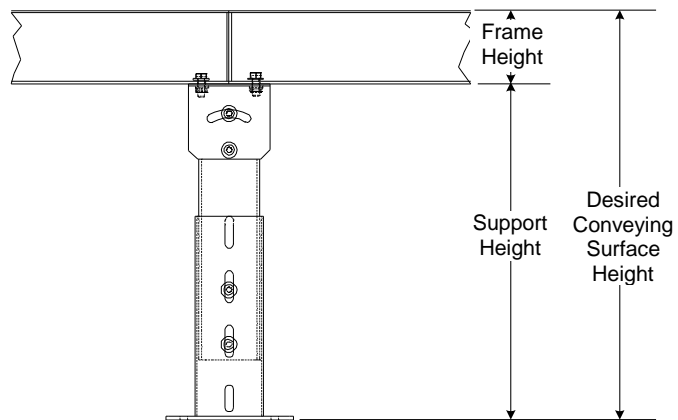

Figure 2.1 – Support Height Adjustment
- Set the support height. Subtract frame height dimension from desired conveying surface. See Figure 2.1. Adjust the supports to this dimension by sliding inner and outer legs and tighten bolts.